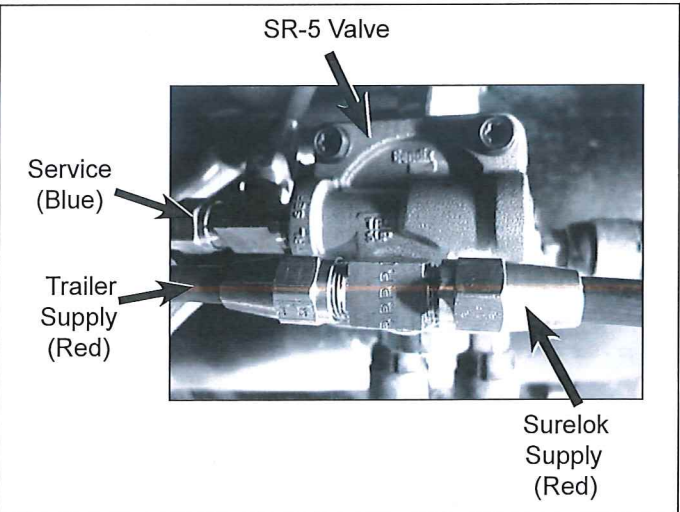

Figure 4 – Piston Cover Air Line Connections
1. Identify and disconnect all the air lines connected to the control piston cover. (*Refer to Figure 4.*)